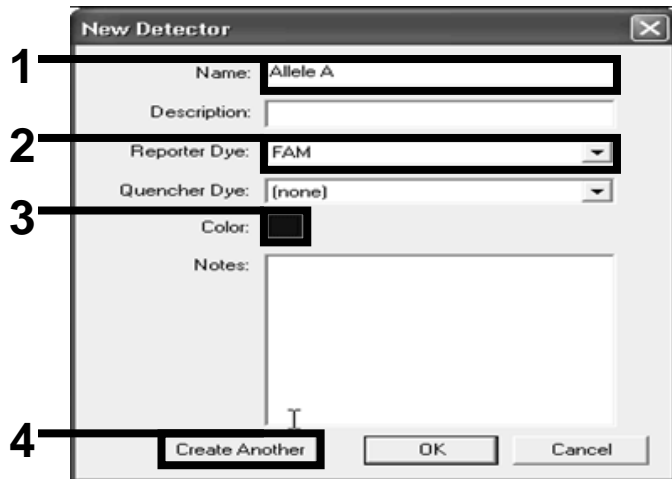

Figure 15. Creating detectors.
16. In the "New Detector" dialog box, type *Allele A* in the "Name" field (Figure 15). Leave the "Reporter Dye" set to "FAM". Click "Color", select a color, and then click "OK" (Figure 15). Click "Create Another" (Figure 15).